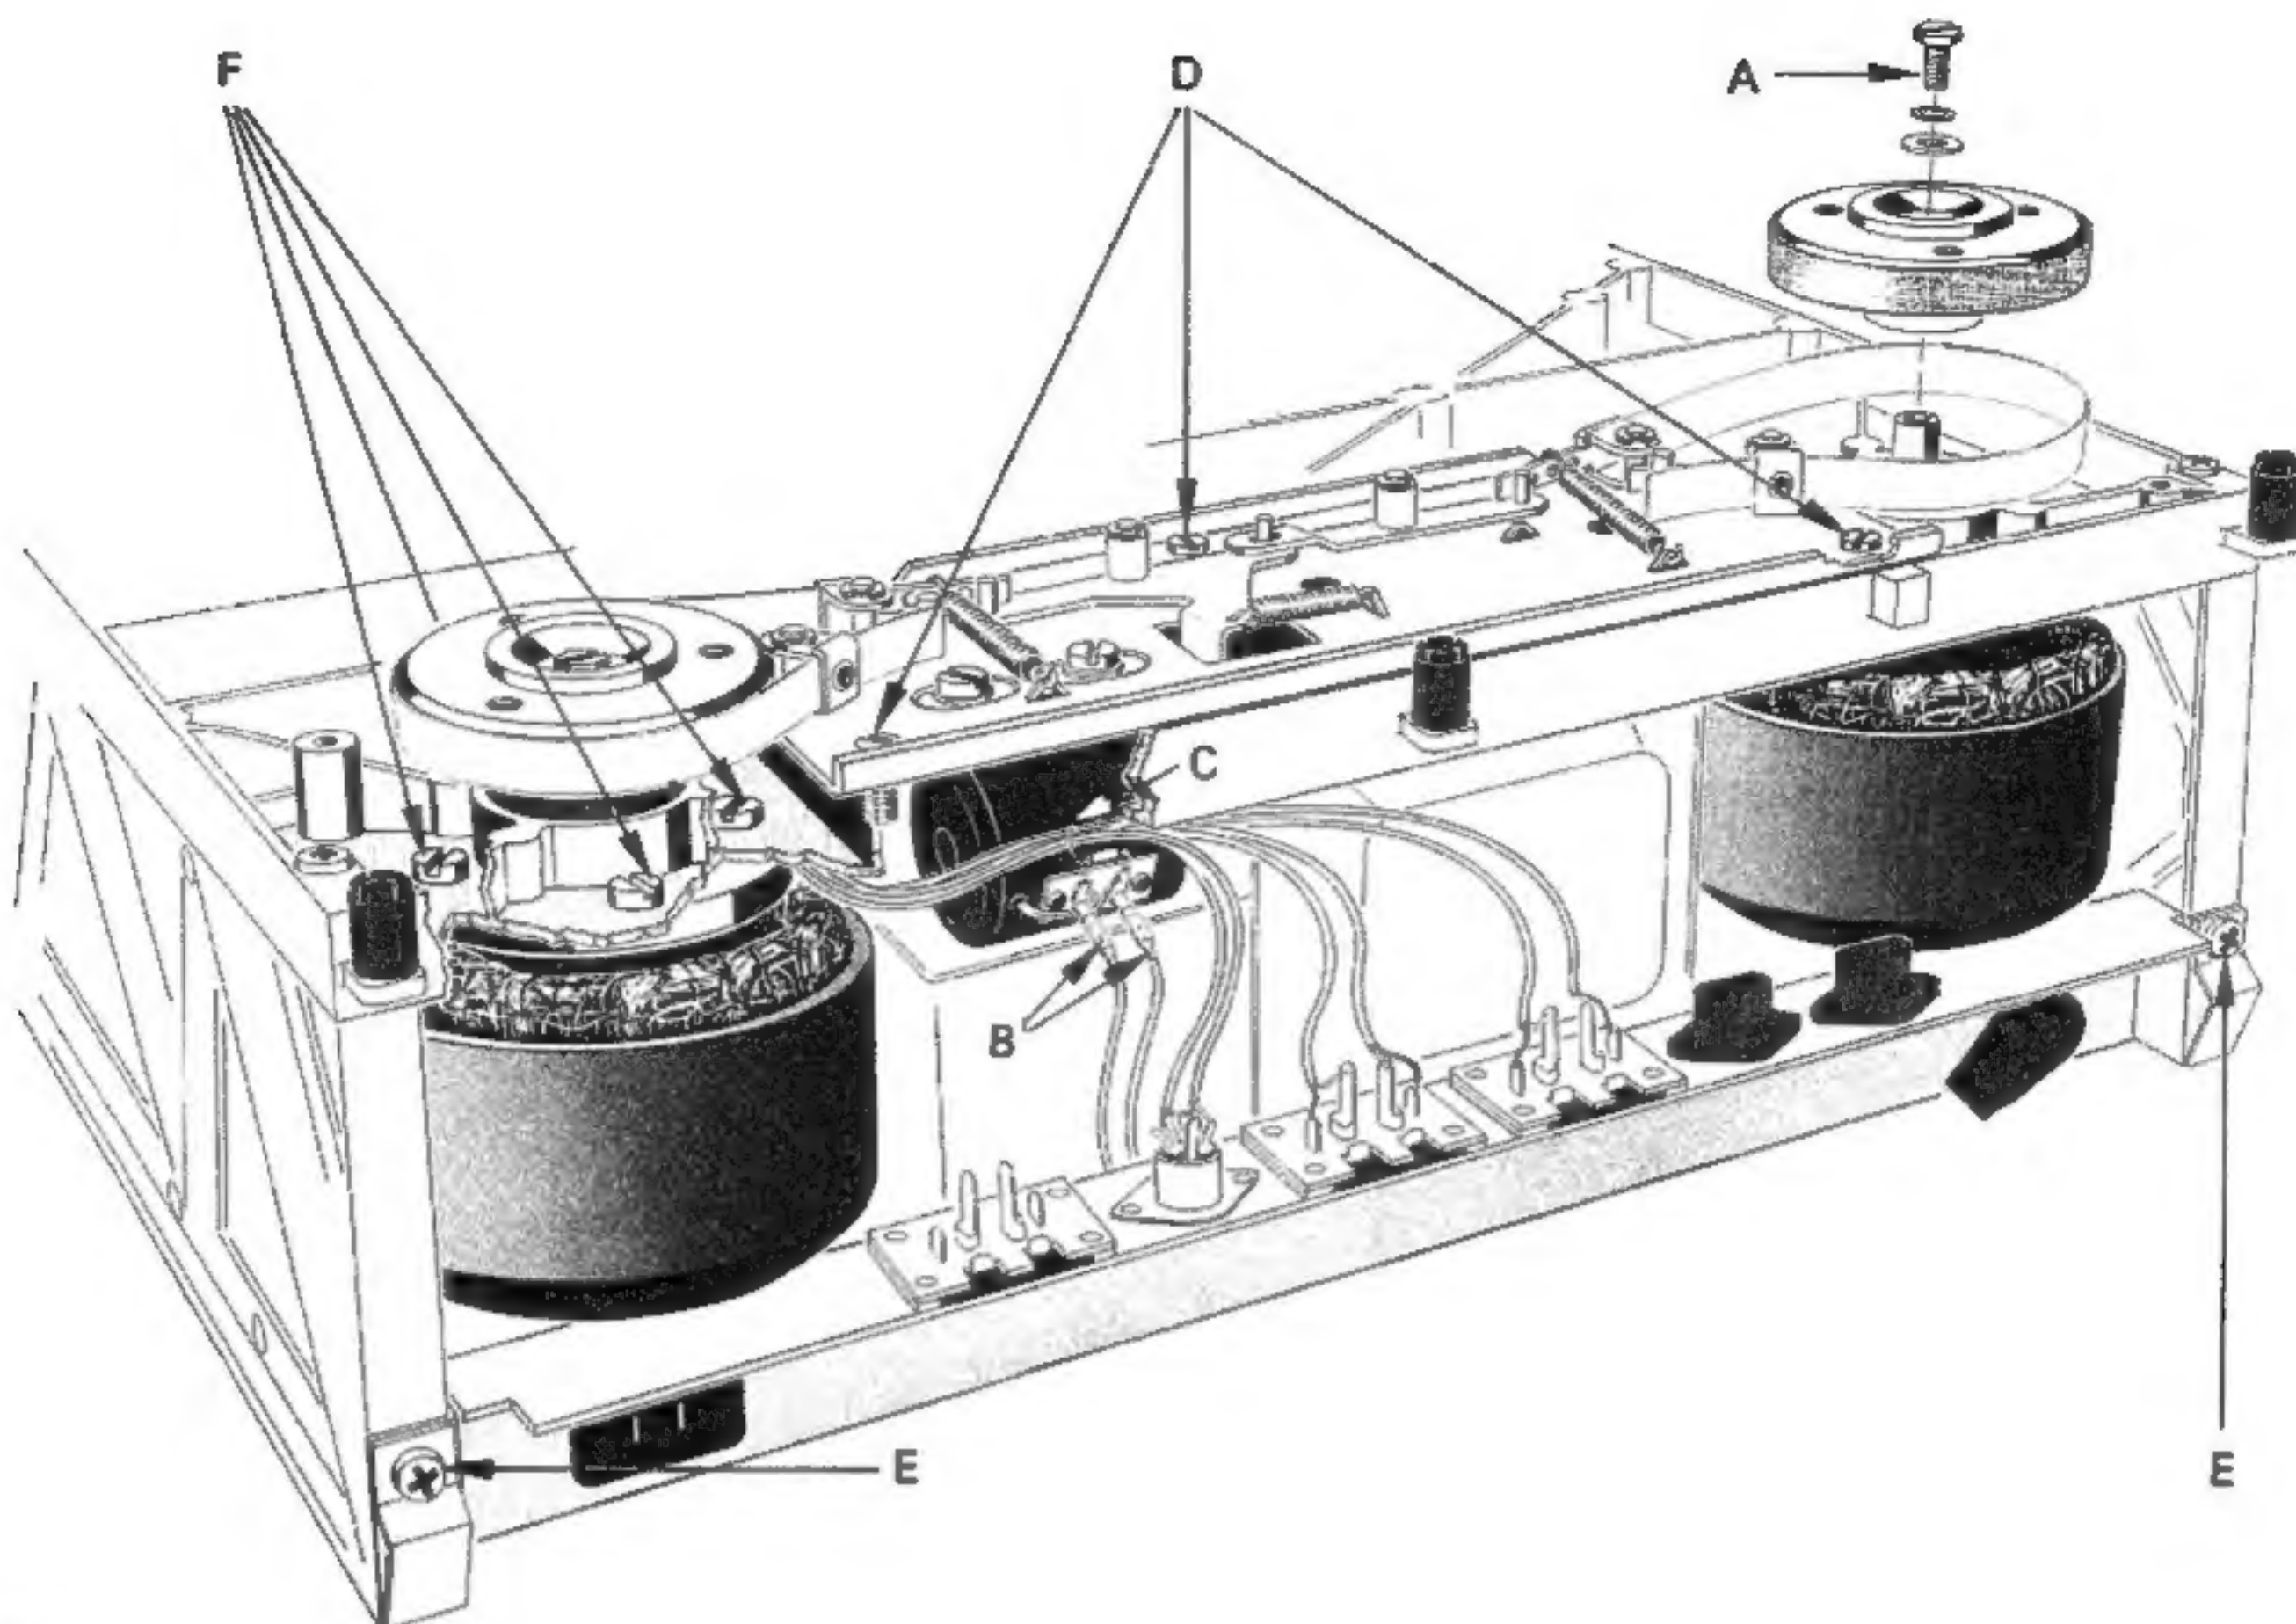

Fig. 3.5-6
- Remove frame screws E (fig. 3.5-6).